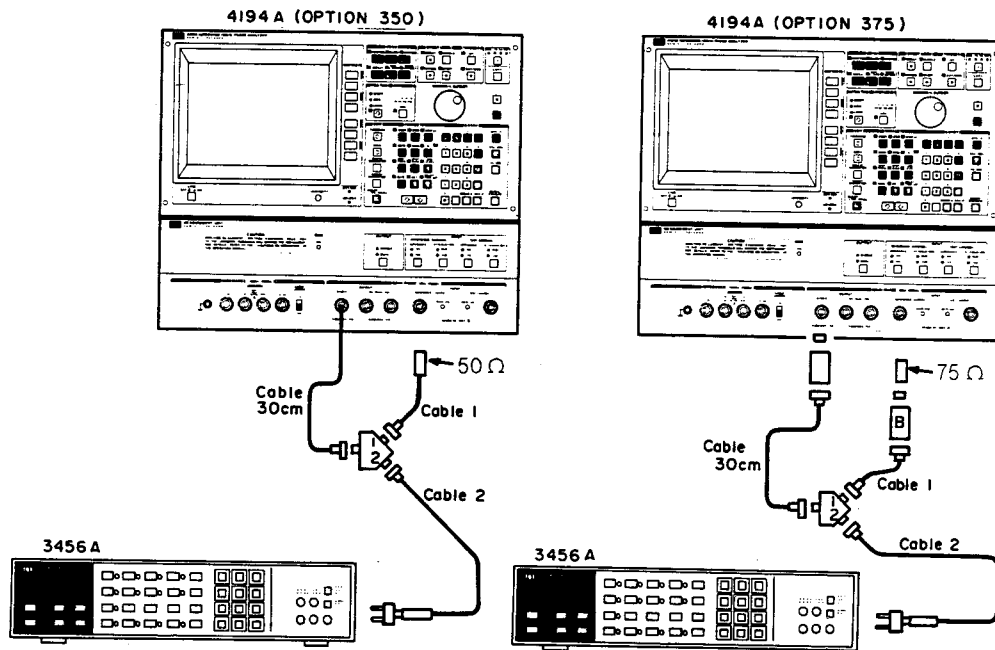

Figure 4-16. Amplitude Measurement Accuracy Test Setup 2
1. Connect the appropriate (50 $\Omega$  or 75 $\Omega$ ) feedthrough termination to the REFERENCE CHANNEL as shown in Figure 4-16.